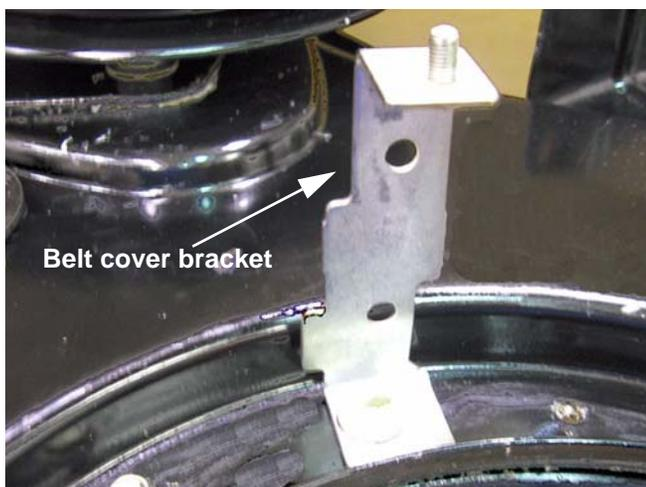

Figure 5.16
13. Remove the hex nut and lock washer from the mounting stud on the belt cover bracket using a 1/2" wrench, and remove the bracket. See Figure 5.16.